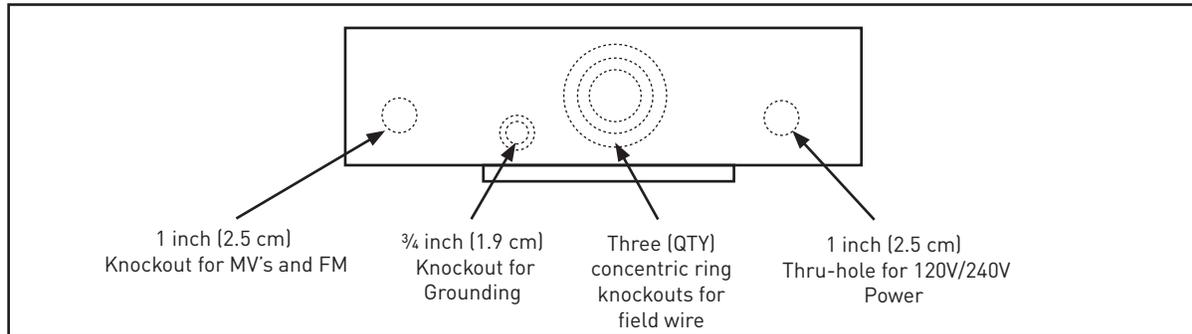

Figure 4. Bottom of the Enclosure
The bottom of the controller enclosure has the following through-holes or knockouts shown in Figure 4.
Step 1 – Remove the 3/4-inch (1.9 cm) knockout in the bottom of the enclosure indicated in Figure 4. Install a 1/2-inch (1.3 cm) conduit below grade and beyond the perimeter sidewalk of the building if there is one.